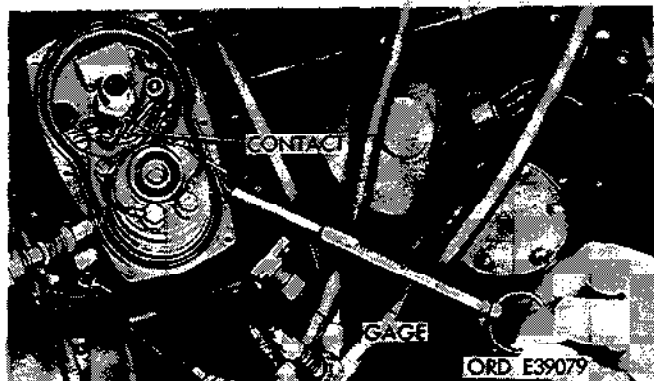

Figure 2-157. Attach spring gage.
(1) Attach spring gage to end of movable contact and pull on gage at right angles to movable contact (fig. 2-157).